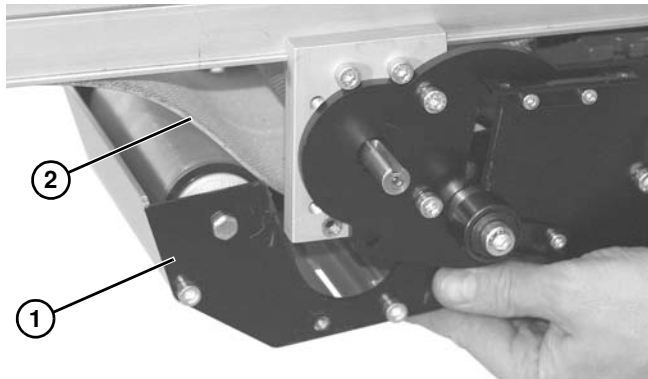

Figure 51
- Lower and remove mid drive module (**Figure 51, item 1**) from belt (**Figure 51, item 2**).